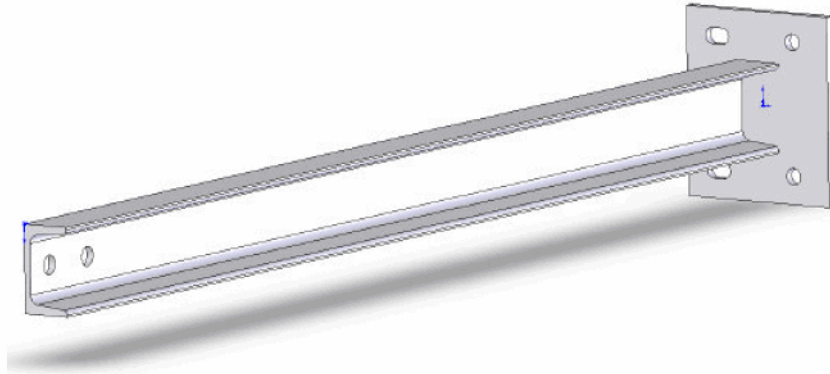

Figure C-3: Horizontal Arm
- **Horizontal Arms:** Three horizontal arms (Figure C-3) that connect the H-Frame to clamps on the structure on which the H-Bracket is installed.